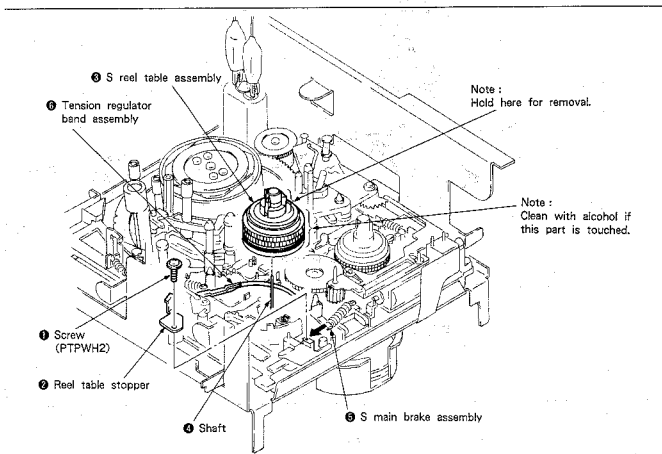
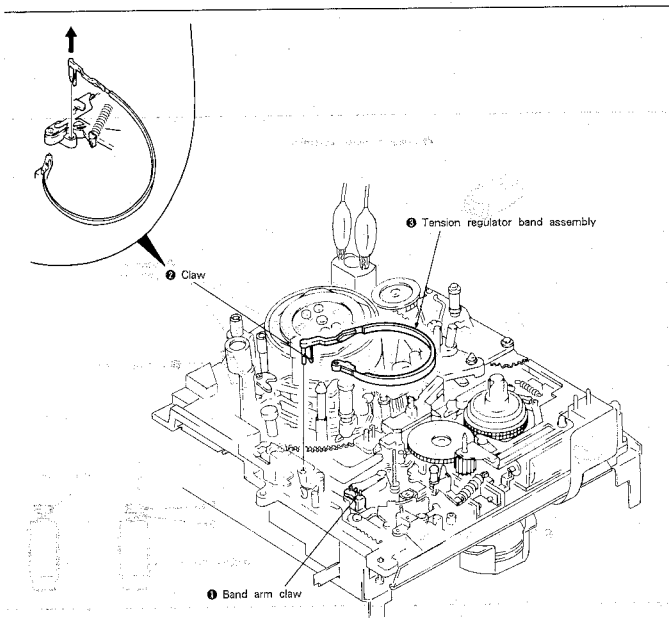

Fig. 7-6.
Fig. 7-10.
Removal (See Fig. 7-6.)
Note : Be sure to hold the upper reel claw section when removing. (See Fig. 7-6.(Note))
Mounting (See Fig. 7-6.)
Removal (See Fig. 7-10.)
-) Remove the S reel table assembly according to 7-3-1, 1. Removal. (See Fig. 7-6.)
-) Remove the band arm claw ①.
-) Remove claw ② and remove the tension regulator band assembly ③.
2. Mounting (See Fig. 7-10.)
- 1) Mount the tension regulator band assembly ③. (Do not touch the band or change its shape.)
- 2) Fit on the band arm claw ①.
- 3) Mount the S reel table assembly according to 7-3-1, 2. Mounting. (See Fig. 7-6.)